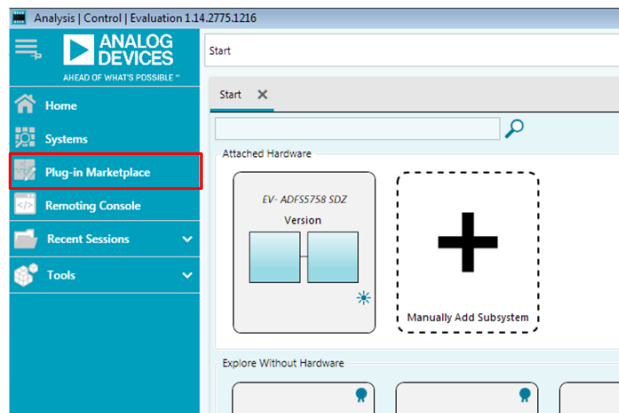
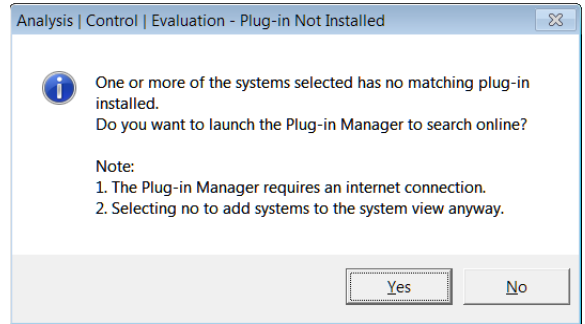
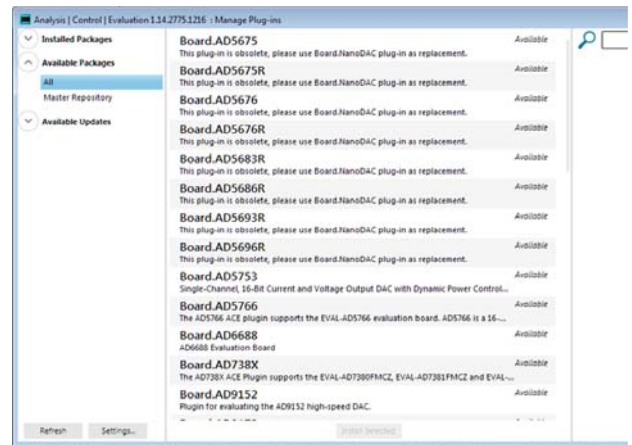
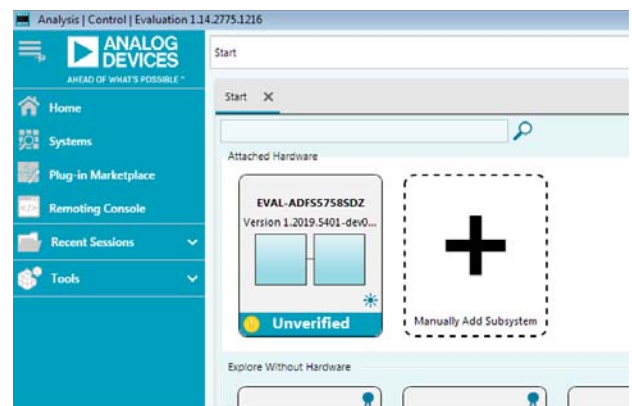

Figure 3. EVAL-ADFS5758SDZ Plugin Not Installed
Figure 4. Installing Plugin Popup Window
Figure 5. Manage Plug-ins Window
Figure 6. Attached Hardware Pane with EVAL-ADFS5758SDZ Connection
5. When setting up the evaluation board for the first time, the EVAL-ADFS5758SDZ plugin may need to be installed. If the plugin appears as shown in Figure 6, go to Step 7. If the plugin appears as shown in Figure 3, click the button that is marked in red in Figure 3. After clicking this button, the popup window shown in Figure 4 appears. Click **Yes**.
6. A new window appears, as shown in Figure 5. Navigate to the **Board.ADFS5758** plugin and click **Install Selected**. The EVAL-ADFS5758SDZ plugin installs and displays, as shown in Figure 6.